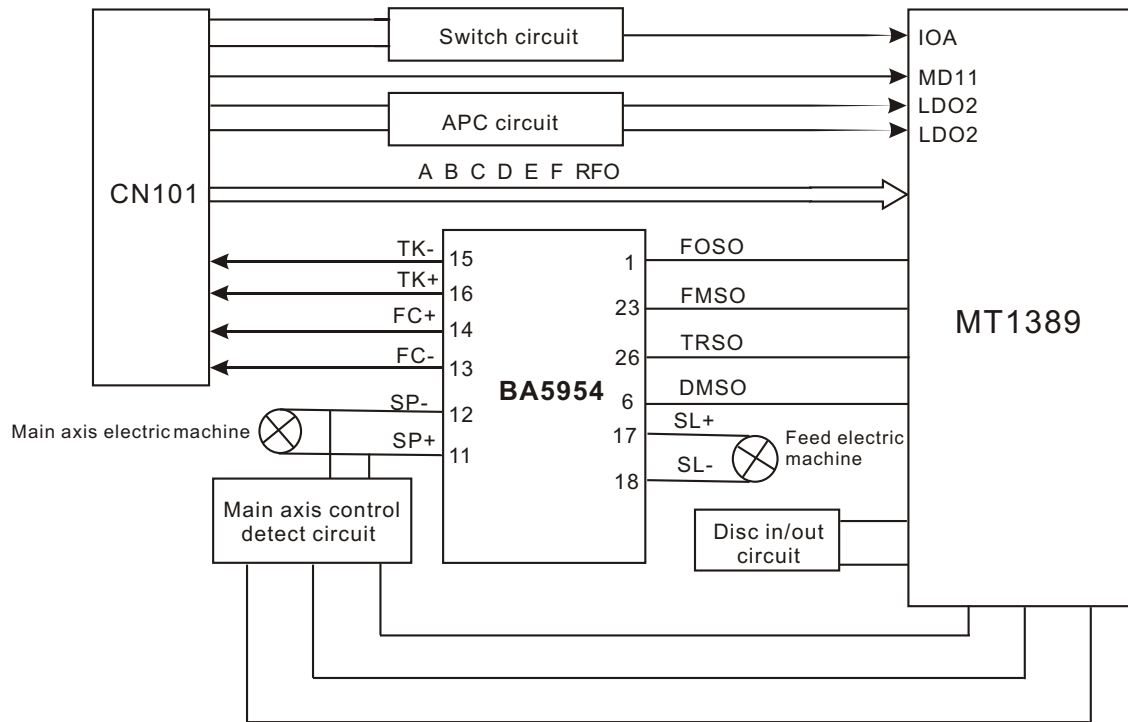

Figure 3.1.3.1 Servo circuit block diagram
1. Servo circuit block diagram is shown as in the following figure 3.1.3.1: